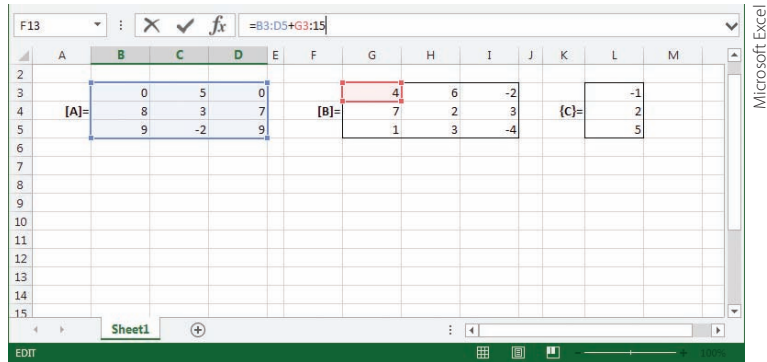

FIGURE 14.36
- In the cells shown, type the appropriate characters and values. Use the **Format Cells** and **Font** option to create the boldface variables, as shown in Figure 14.36.